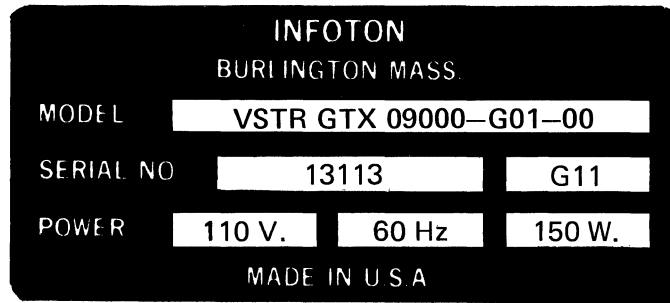

Figure 16 VISTAR Series Name Plate
- Identify the terminal by name and serial number (see Figure 16). The serial number name tag is located on the bottom of your VISTAR/GTX terminal.
If a question arises as to what is the correct part to order, write or call the Manager of Customer Engineering, INFOTON, INC., Second Avenue, Burlington, Massachusetts 01803; Phone: (617) 272-6660. Be sure to supply the terminal serial number as shown in Figure 16.